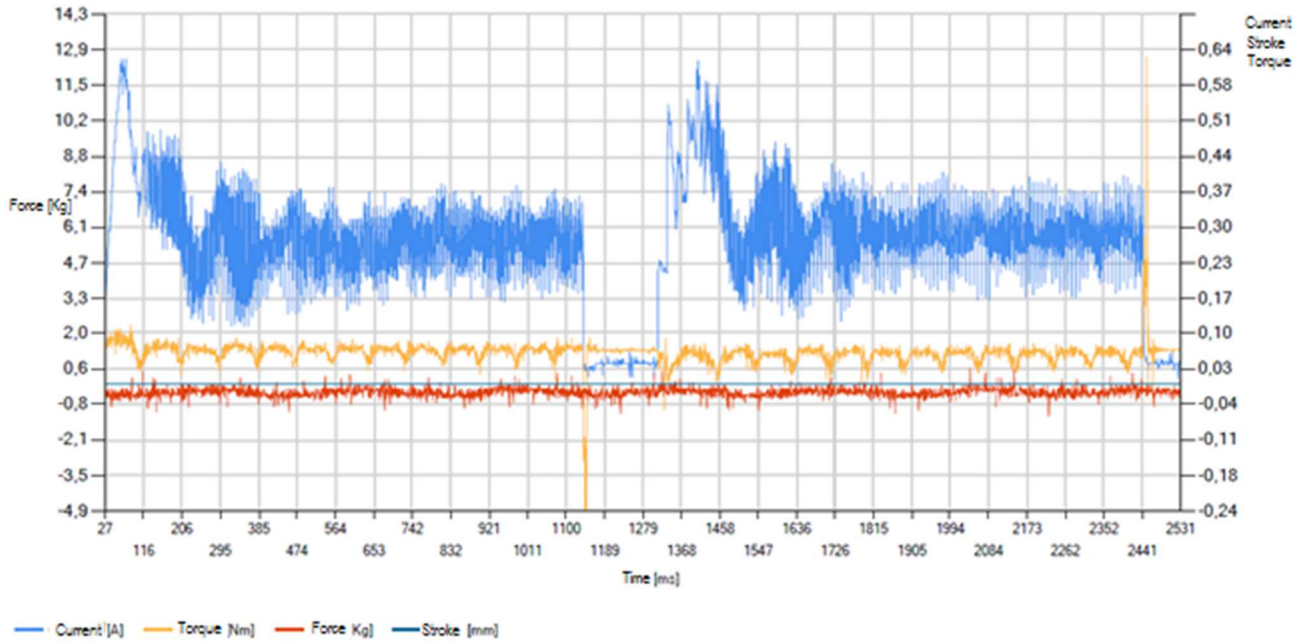

Figure 6 Rolling test output
- 1- Rolling test as output graphic (see figure 6)